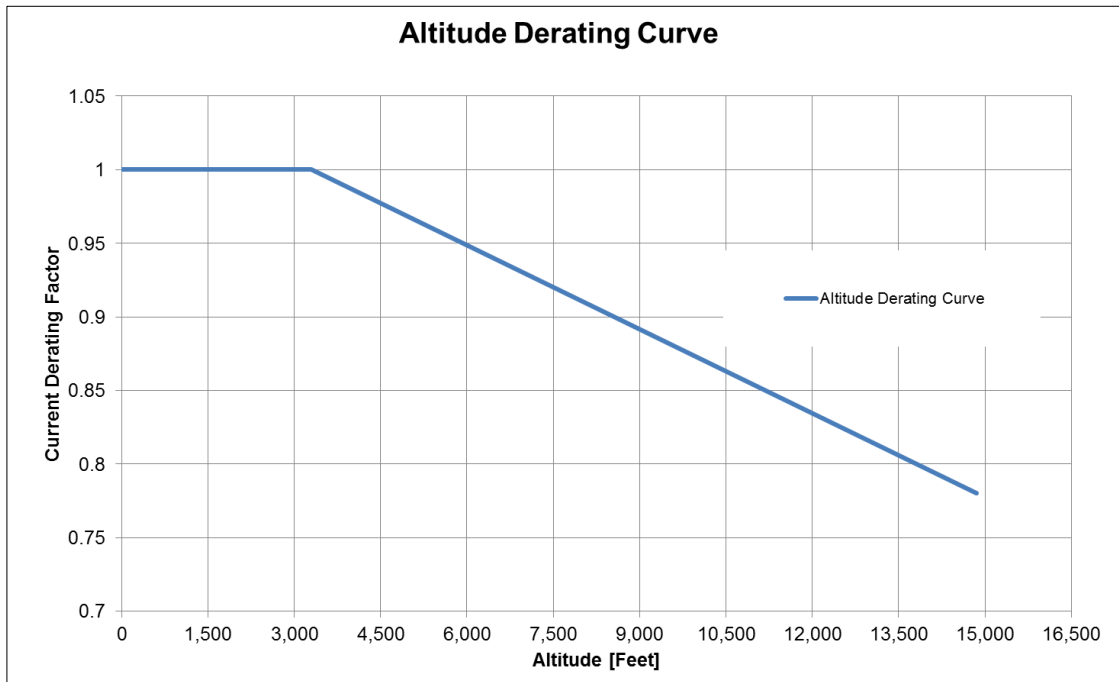

Figure 3-5: Altitude Derating Curve
*See Figure 3-5: Altitude Derating Curve (p10)
- Altitude:** 3,300 feet above sea level without derating, see Figure 3-5: Altitude Derating Curve (p10) for derating curve.